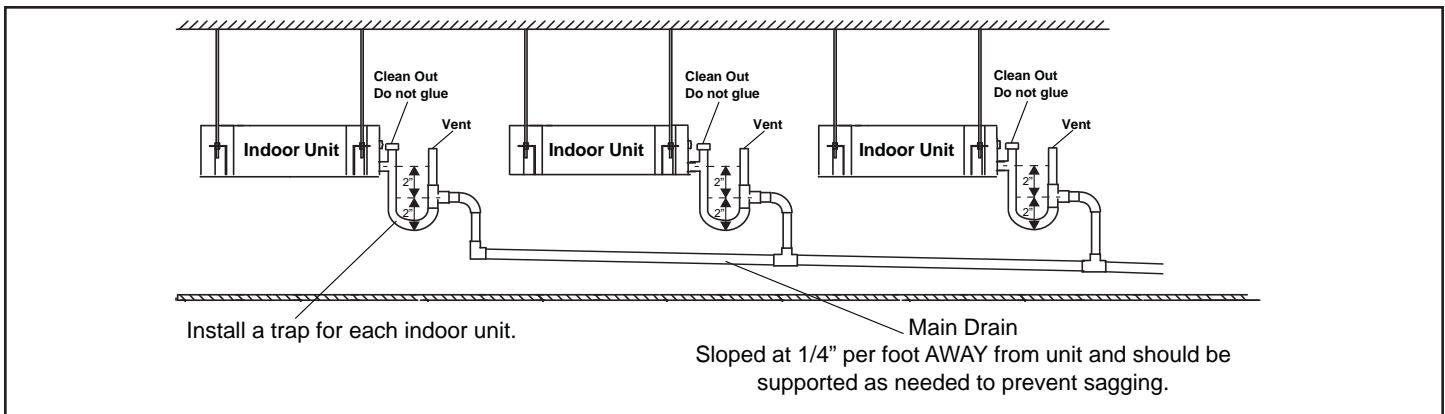

Figure 10. Using a Main Drain to Serve Multiple Indoor Units with Gravity Drains
- See figure 10 for applications including multiple units and a single drain. In this case, ensure that the drain line is properly sloped (no less than 1/4 inch per foot) and condensate lines are routed to ensure moisture is drained away from the indoor unit.